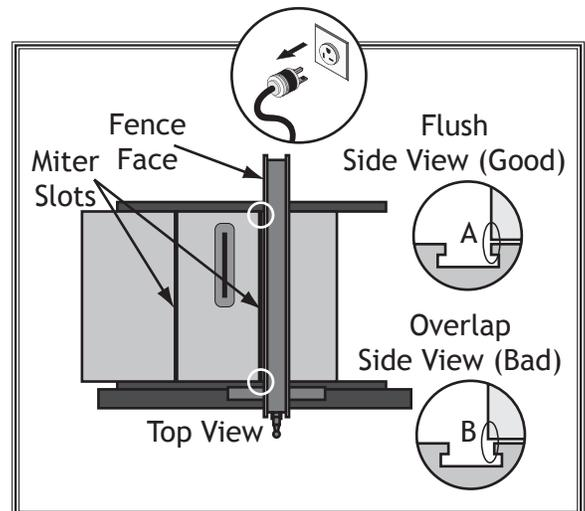

Figure 121. Example of aligning fence to miter slot.
5. Slide fence up against right-hand edge of miter slot, as shown in **Figure 121**, and lock it in place.